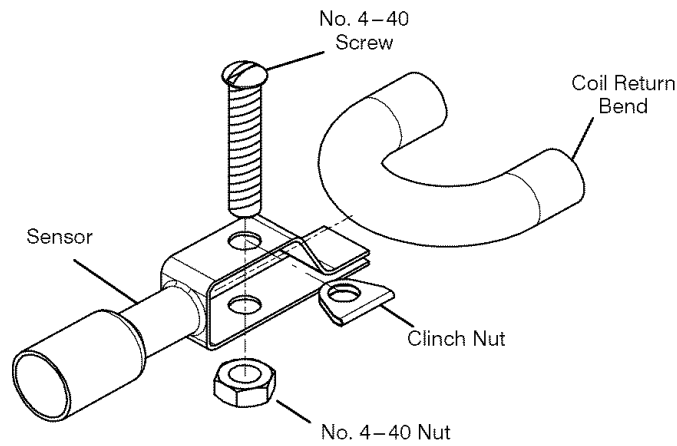

Fig. 4 - MotorMaster® Sensor
5. Secure sensor on coil return bend with the No. 4-40 screw and nut supplied with kit as shown in Fig. 4.